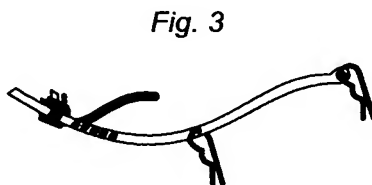

Fig. 3
- b. Pull the yellow shipping strap completely out of the back of the washer. Be sure both cotter pins come out of the washer. Note that the power supply cord plug will still be attached to the yellow shipping strap. (Fig. 3)